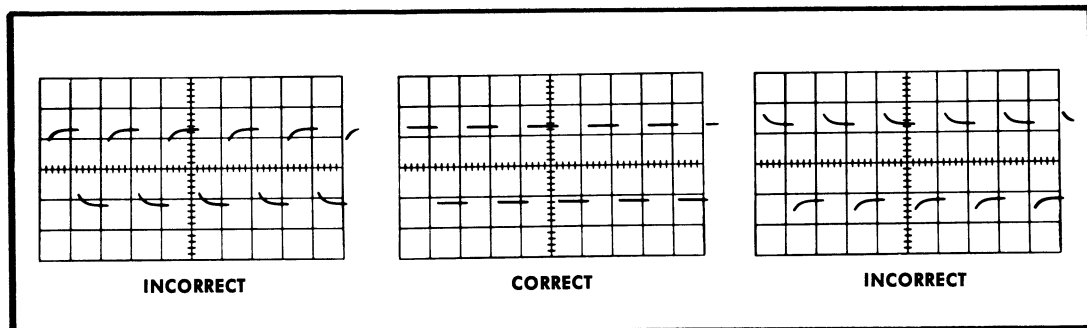

Fig. 2-1. Probe Compensation
4. Through the hole in the compensating box, rotate the capacitor (C3) with a small non-conducting screwdriver to obtain a flat-top presentation of the calibrator output signal. See Fig. 2-1.